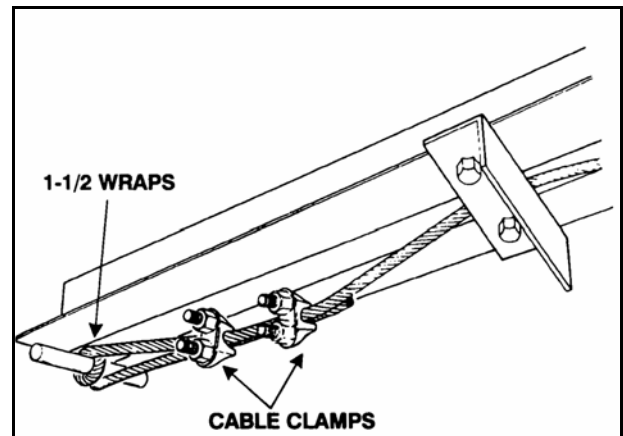

Figure 3.11
Note: On augers equipped with a lower angle-iron track stop, the cable must be threaded between track stop and auger tube to cable rests on top of the track stop (See Figure 3.11).
4. Wrap cable 1-1/2 times around the cable attach rod and secure with two 1/4" cable clamps. Position cable clamps as shown in Figure 3.11 and 3.13. Tighten clamps securely.